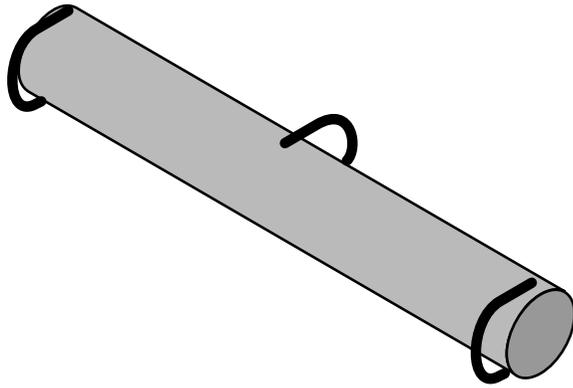

Figure 12: swingletree: the traces will be tied to the ends, and the cart or implement tied to the central loop.
- 6) Lastly attach the breast band to another pair of hooks below the wooden blocks of the saddle or lead traces (pieces of rope or chain) from the ends of the breast strap to a swingletree on the front of the cart. A swingletree is shown in Figure 12. Use of the swingle tree is kinder to the animal because it allows a little movement of the breast strap with the movement of the animal's chest as it moves. Make sure that the traces do not rub against the sides of the animal.